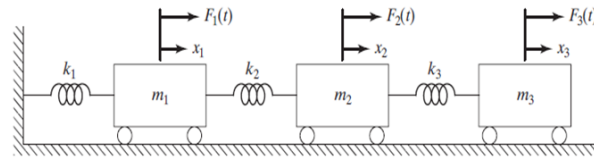

Figure 3
- (b) Find the natural frequencies and mode shapes of the system shown in Figure 3 for $K_1 = K_2 = K_3 = K$ and $m_1 = m_2 = m_3 = m$ [BL: Apply| CO: 4|Marks: 7]